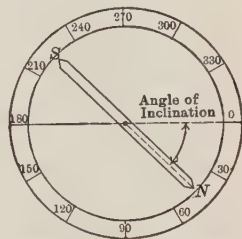
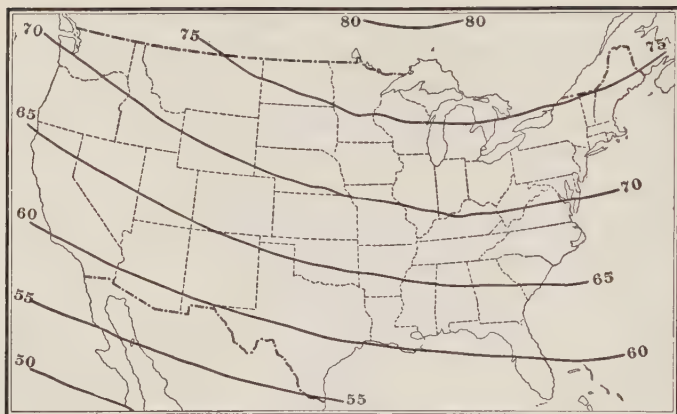

FIGURE 340. — A DIPPING NEEDLE.
FIGURE 341.—ISOCLINIC LINES IN 1915.
**220. Dip.** — If a steel needle is carefully balanced horizontally on its pivot and magnetized, the *N* pole will then incline downward somewhat in the northern hemisphere and the *S* pole in the southern hemisphere. When a balanced needle is so supported that it can turn in a vertical plane (Figure 340), after magnetization it will *dip*, often to a considerable extent. To measure this dip, a vertical circle is mounted beside the needle, and the dipping needle is turned until the plane of the needle is in a magnetic meridian. The angle between the needle and the horizontal is called the *angle of inclination* or *angle of dip*. This increases as we go north and decreases as we go south, until the needle becomes horizontal at certain points near the earth's equator. These points lie on the magnetic equator. South of the magnetic equator, the *S* pole dips. Lines of equal dip are called *isoclinic lines*, and are shown in Figure 341. The dip in the United States varies between  $55^{\circ}$  and  $78^{\circ}$ .